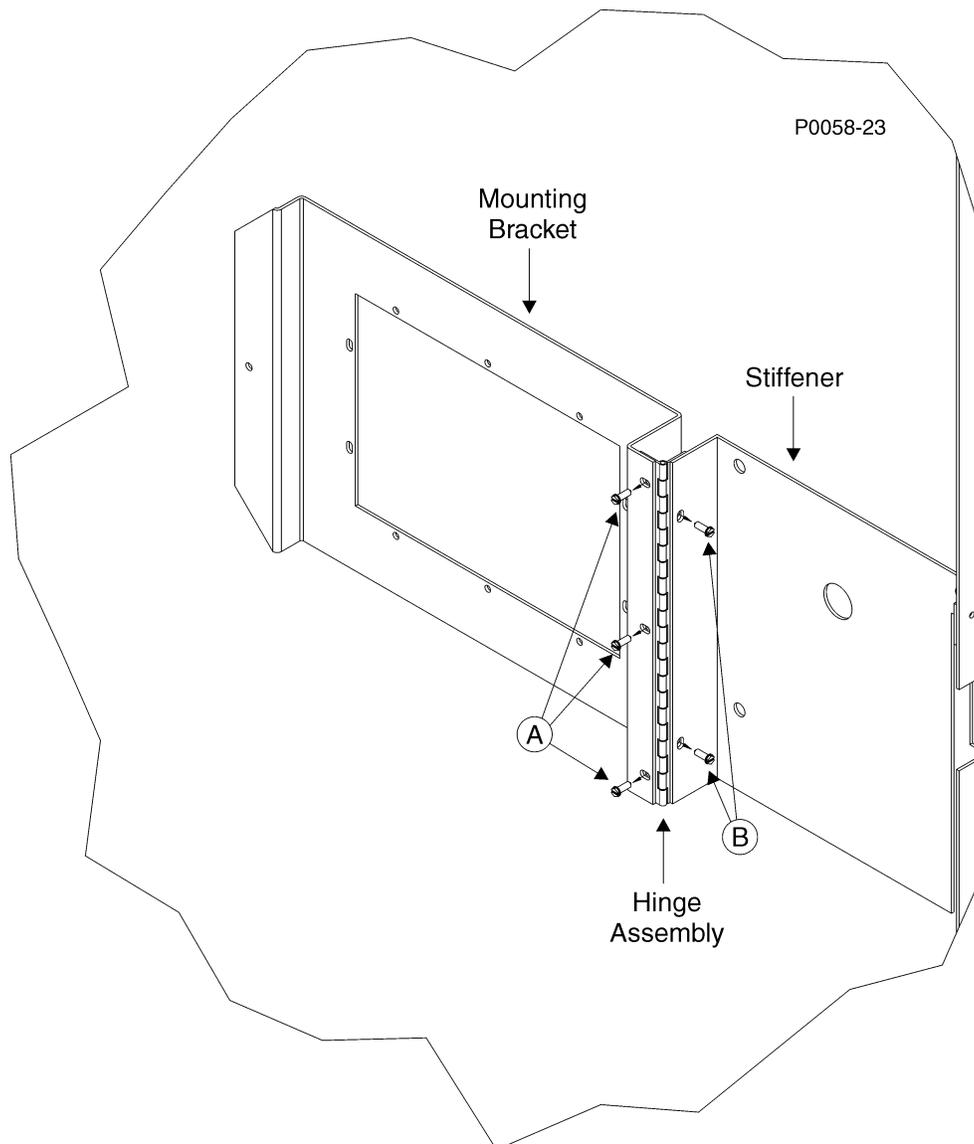

Figure 66. Removal of Display Panel Mounting Bracket and Hinge Assembly
4. Separate the display mounting bracket from the hinge assembly by removing the three screws shown in Figure 66 (locator A). Retain these screws for use later.
5. Separate the hinge assembly from the stiffener by removing the two screws shown in Figure 66 (locator B). Retain these screws for use later.